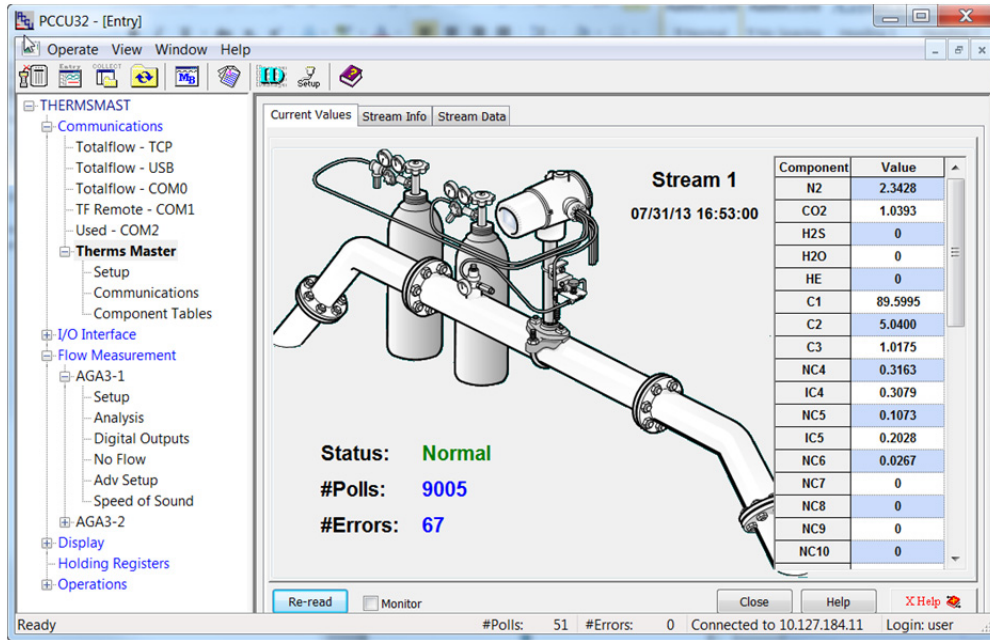

Figure 48. Verify Therms Master receives data from current values tab
- 6) Verify the Therms Master interface is getting the analysis data for the stream specified by left-clicking on *Therms Master* in the tree view on the left, as shown in Figure 48.